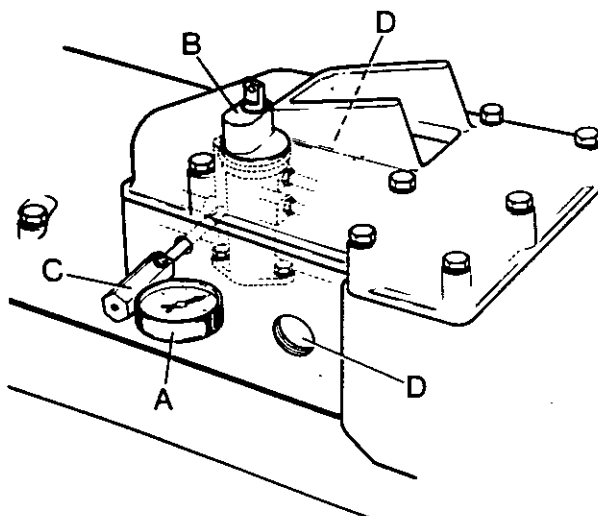

FIGURE 57 BRAKE BAND ADJUSTMENT
7. Connect the pressure gauge to the tapping point with the adaptor, see figure 57.